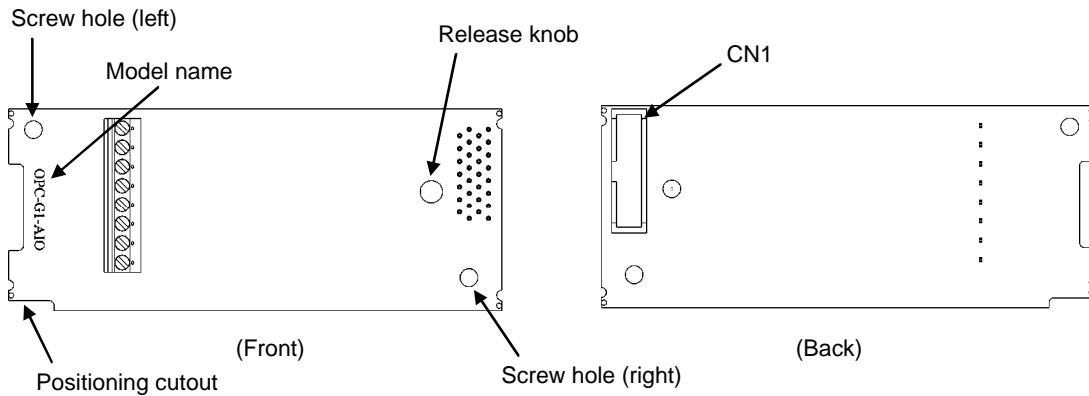

Figure 1.1 Name of Parts on Analog Input/Output Interface Card (OPC-G1-AIO)
- (1) An interface card, two screws (M3 × 8), and the Analog Input/Output Interface Card Instruction Manual (this manual) are contained in the package.
- (2) The interface card is not damaged during transportation--no defective parts, dents or warps.
- (3) The model name "OPC-G1-AIO" is printed on the interface card. (See Figure 1.1.)
- (2) Insert connector CN1 on the back of the interface card (Figure 1.1) into any of the A-port (CN4), B-port (CN5), and C-port (CN6) on the inverter's control PCB. Then tighten the two screws that come with the card. (Figure 1.4)
**Note** Check that the positioning cutout (shown in Figure 1.1) is fitted on the tab (① in Figure 1.3) and connector CN1 is fully inserted (② in Figure 1.3). Figure 1.4 shows the interface card correctly mounted.
- (3) Perform wiring on the interface card.